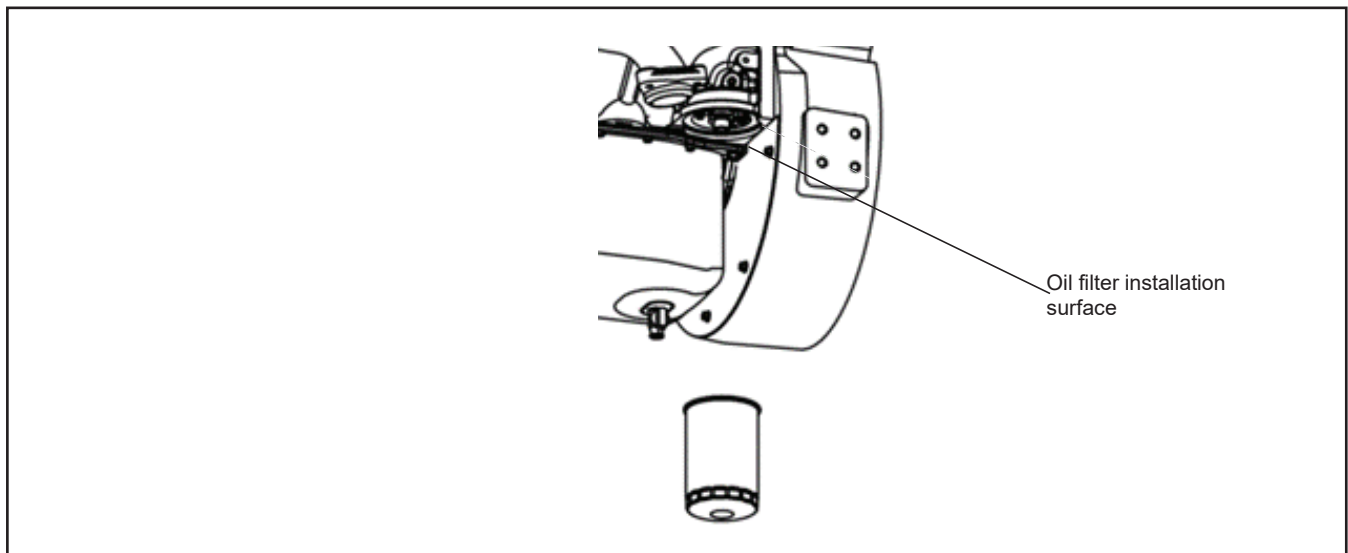

Figure 24 Oil Filter Installation Location
5. Wipe the oil filter installation surface clean with a dry cloth. Inspect the installation surface for damage. See Figure 24.